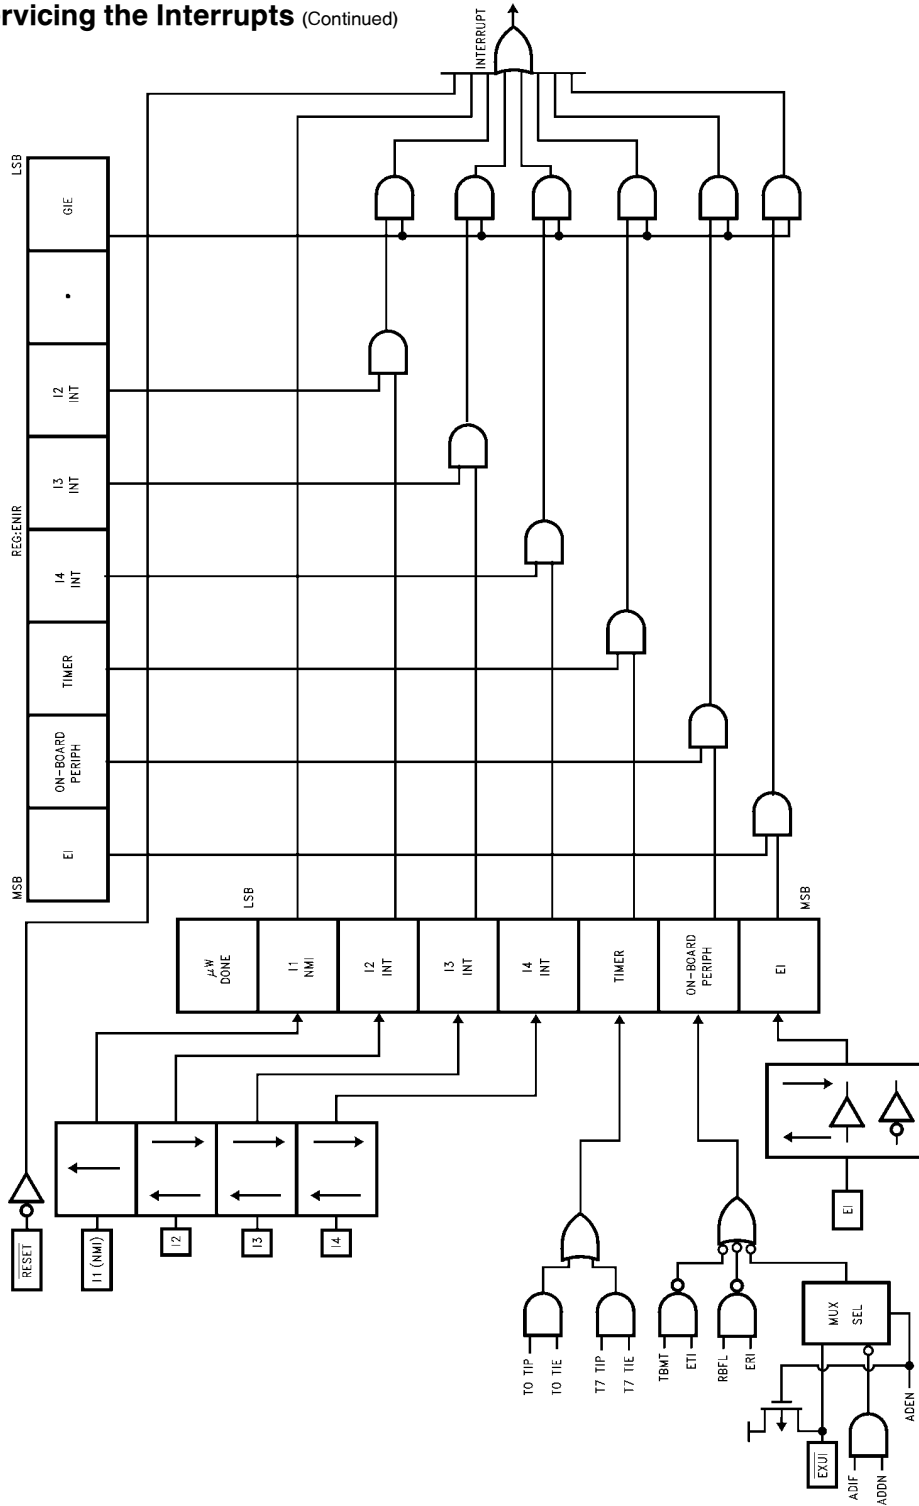

FIGURE 18. Block Diagram of Interrupt Logic
The Interrupt, once acknowledged, pushes the program counter (PC) onto the stack thus incrementing the stack pointer (SP) twice. The Global Interrupt Enable bit (GIE) is copied into the CGIE bit of the PSW register; it is then reset, thus disabling further interrupts. The program counter is loaded with the contents of the memory at the vector address and the processor resumes operation at this point. At the end of the interrupt service routine, the user does a RETI instruction to pop the stack and re-enable interrupts if the CGIE bit is set, or RET to just pop the stack if the CGIE bit is clear, and then returns to the main program. The GIE bit can be set in the interrupt service routine to nest interrupts if desired. *Figure 18* shows the Interrupt Enable Logic.